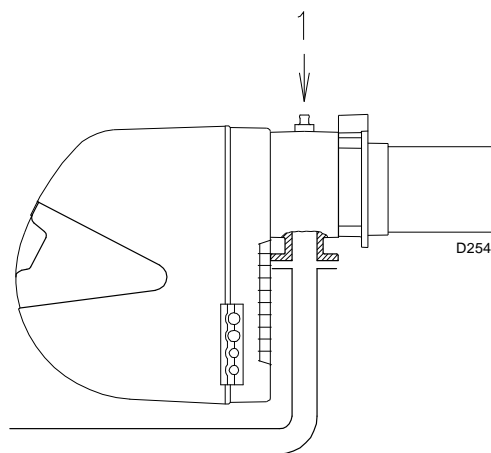

Fig. 23
Gas manifold pressure measured at test point 1)(Fig. 23), with:
- subtract the combustion chamber pressure from the gas pressure measured at test point 1)(Fig. 23).
Gas pressure at test point 1)(Fig. 23) = 5.24" WC